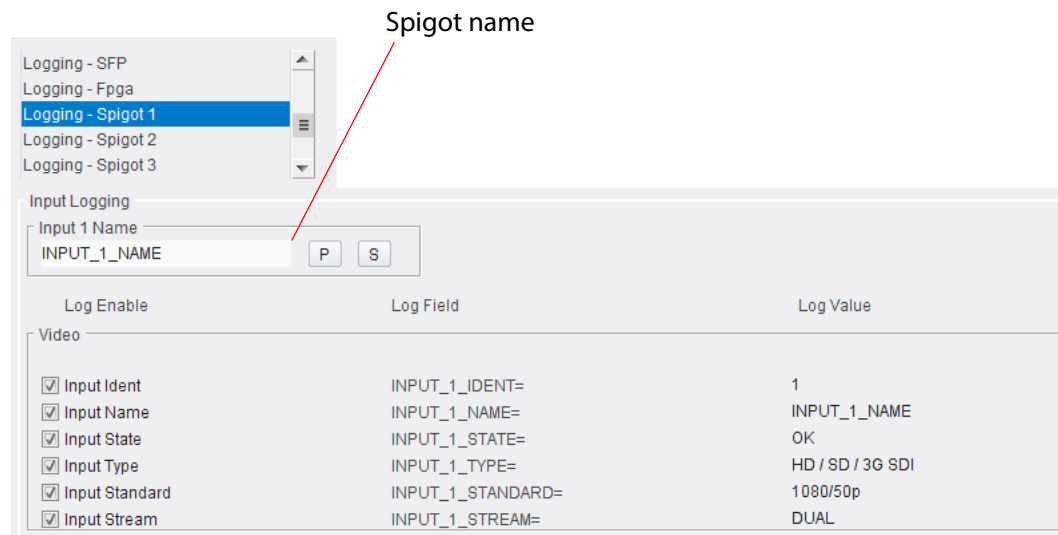

Fig. 4-52: Logging Spigot Template - Source Spigots 1 to 4
- an IP source spigot ("Input N ...", see Figure 4-52); or